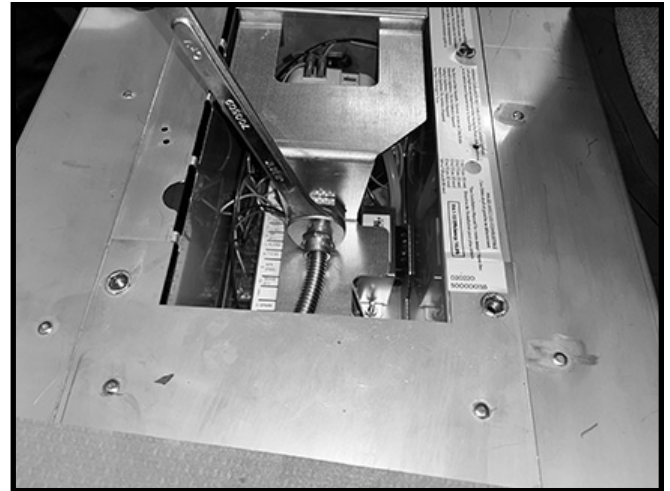

Figure 27: Removing gas line.
10. Disconnect the gas line to the gas valve assembly using a 3/4 inch wrench (Figure 27).